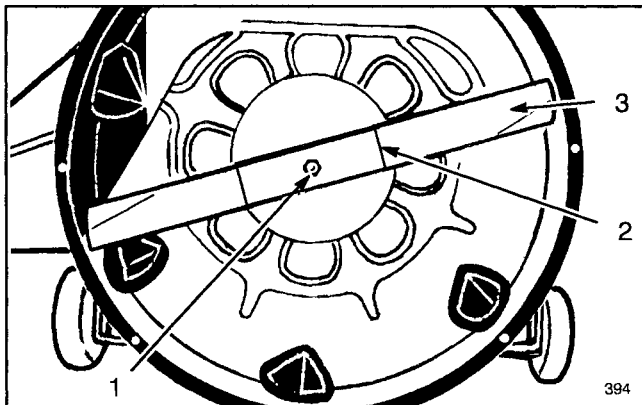

Figure 20
6. Grasp the end of the blade using a rag or thickly padded glove; then remove the blade bolt, washer, blade stiffener and blade (Fig. 20).
9. In sequence, install the blade, the blade stiffener, washer and blade bolt (Fig. 20). Install the concave side of the curved washer against the blade. Tighten the blade bolt to 45-60 ft-lb (61-81 Nm).
7. While the rider is tipped on end, check condition of blade (Fig. 20).